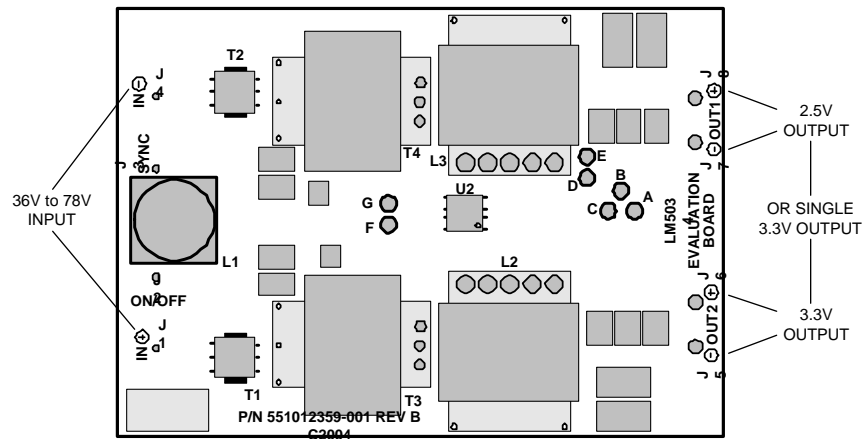
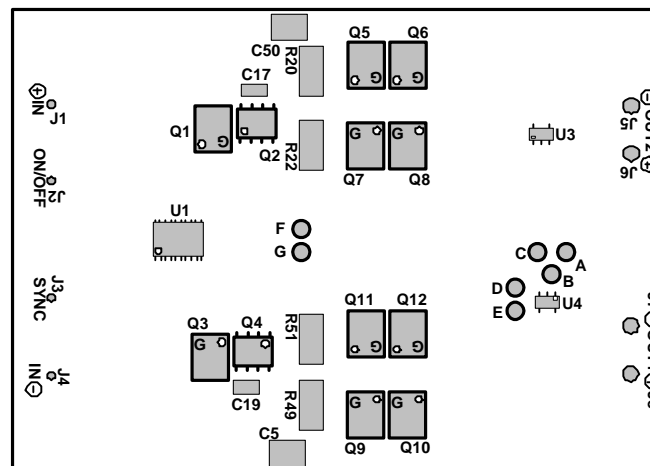
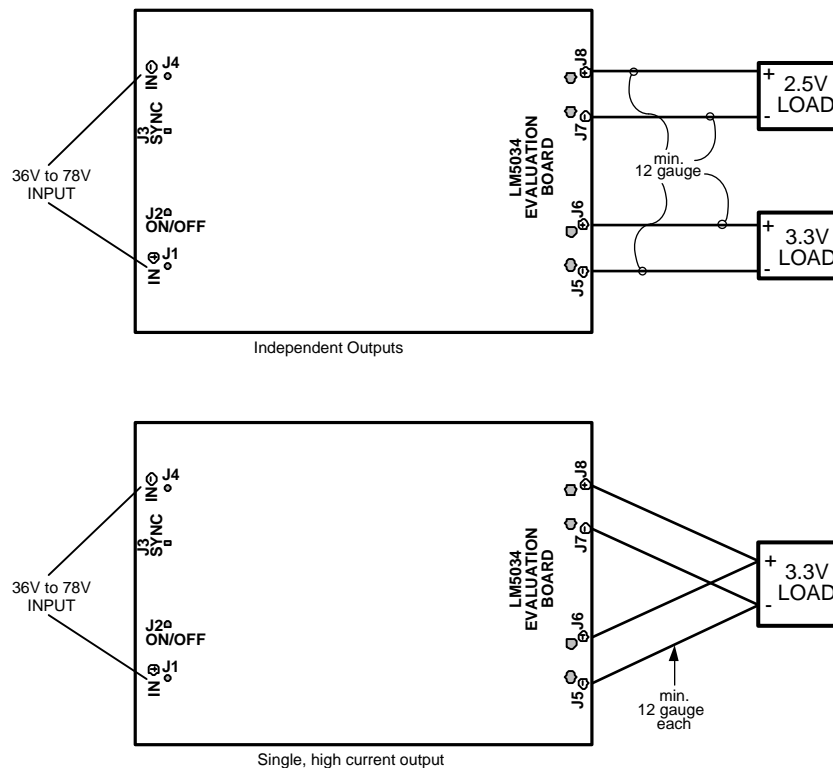

Figure 1. Evaluation Board - Top Side
Figure 2. Evaluation Board - Bottom Side
Figure 3. Connecting the Load(s)
The pictorials in Figure 1 and Figure 2 show the placement of the significant components which may be probed in evaluating the circuit's operation. The following should be kept in mind when the board is powered:
- At maximum load current the size and length of the wires used to connect the load become important. Ensure there is not a significant drop in the wires. A minimum of 12 gauge wire is recommended for 30A. When configured for a single high current output, it is recommended that equal length 12 gauge wires be used from each output pin to the load. See Figure 3.
Prior to applying power, the jumpers must be set for the desired output configuration. The board is initially shipped with jumper A-B in place, which configures the board for independent outputs - i.e., 2.5V at OUT1 and 3.3V at OUT2. To configure the board for a single 3.3V high current output, it is necessary to remove jumper A-B, and install jumpers in locations B-C, D-E, and F-G. Output pins J6 and J8 must be connected together at the load, as well as output pins J5 and J7, as shown in Figure 3. See Figure 1 for the jumper locations.
When configured for separate outputs, the 3.3V load is connected to J6 (+) and J5 (-) and the 2.5V load is connected to J8 (+) and J7 (-). When configured for a single 3.3V high current output, output pins J6 and J8 (+) are connected together at the load, as are J5 and J7 (-). See Figure 3. A minimum of 12 gauge wire should be used for the 30A load currents.